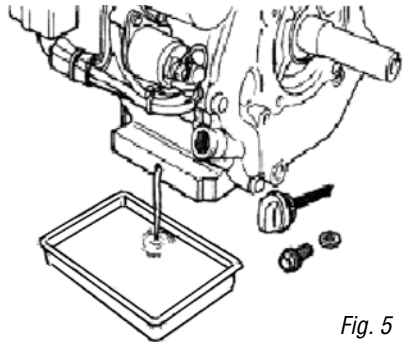

Fig. 5
1. Remove the dipstick (D).
2. Place an approved container below the oil drain plug (Fig. 5).